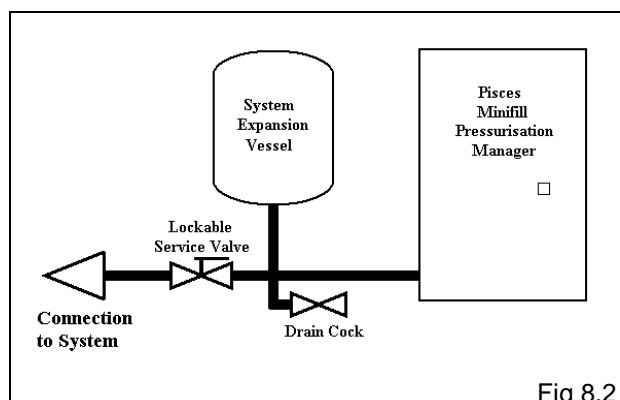

Fig 8.2
The System Connection (C) shall be connected to the system pipework in such a manner so that the suction/discharge pressure of any circulation pumps shall not influence the appliance. It is recommended that the System Connection be routed in such a manner to include/incorporate the supply connection to any system expansion vessels. See Fig 8.2